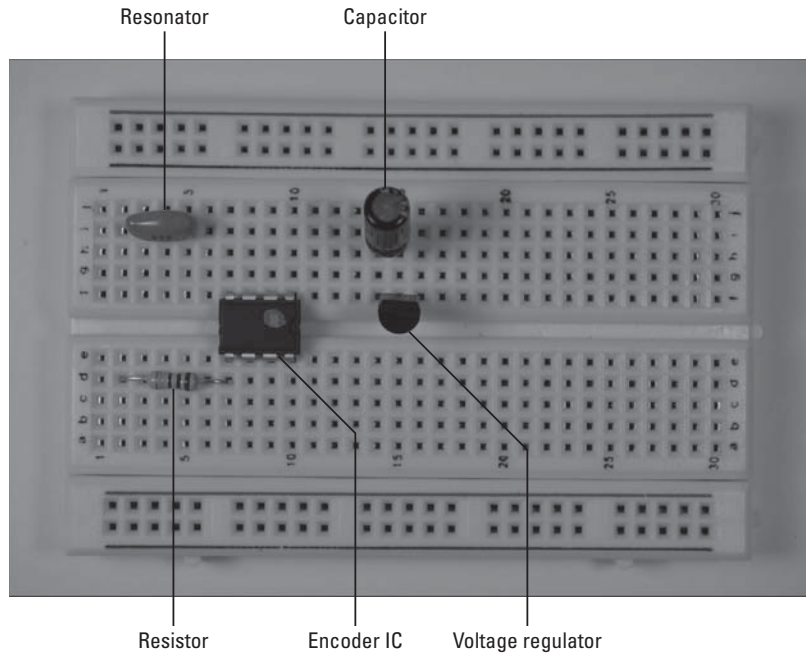

Figure 11-7: Place the encoder IC and associated components on the breadboard.
- 1. Place the encoder IC, resonator, voltage regulator, resistor, and capacitor on the breadboard, as shown in Figure 11-7.**